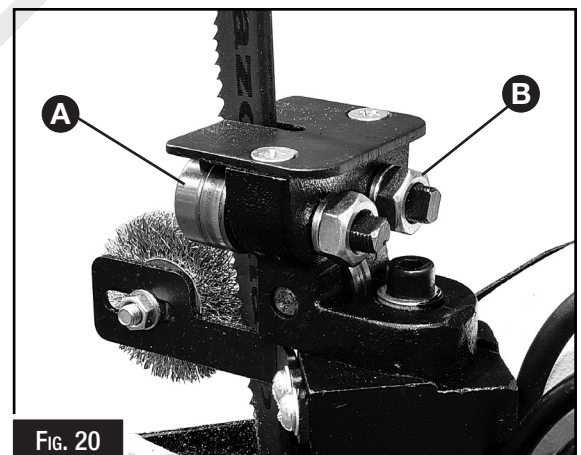

FIG. 20
3. Loosen hex cap screw (A, Fig. 20) and adjust assembly so that back roller bearing is approximately 0.08~0.12mm from the back of the blade.
4. Turn nut (B) to adjust eccentric bearing snug to the blade. Blade should still move up and down freely when grasped as in (Fig. 20). Warning! Make sure power is disconnected and hands are protected before handling blade. Be sure that blade teeth do not interfere with the roller bearings: